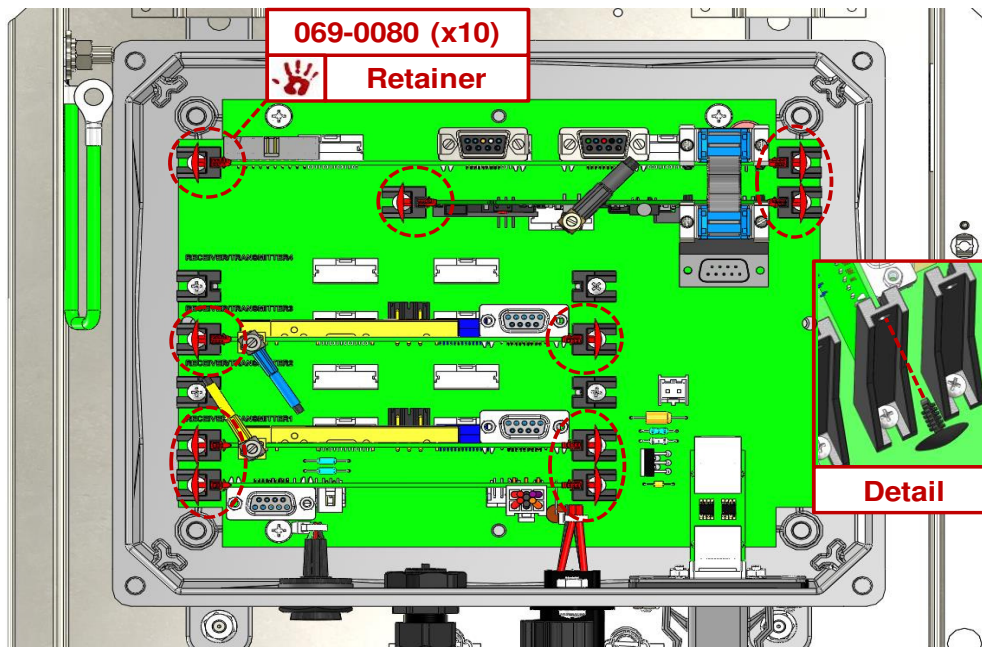

Figure 2: Install Barbed PCB Retainers
4.1.1 Install (10) barbed printed circuit board (PCB) retainers. These are manually pushed into the holes provided in each PCB slide rail.
Install ALL (10) retainers in the position shown in Figure 2, even if there is no PCB installed.